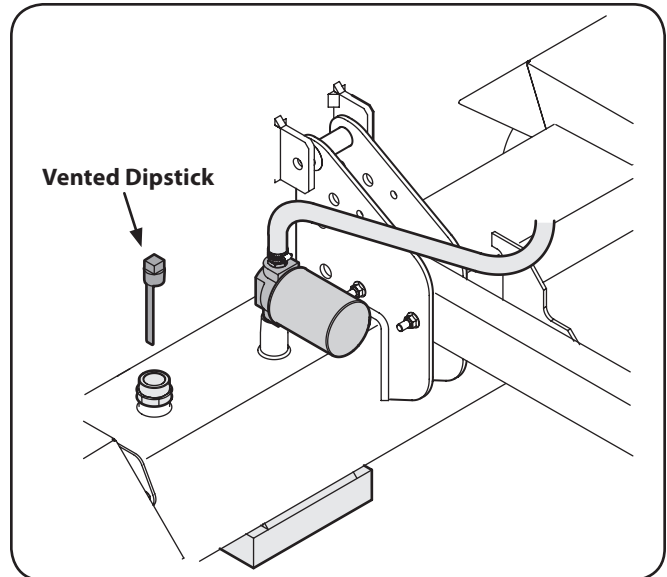

Figure 3-12
2. Remove the vented reservoir dipstick, which is located next to the hydraulic filter on top of the reservoir tank. See Fig. 3-12.